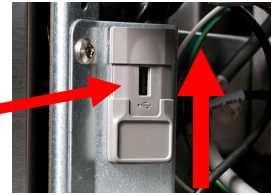

Figure 5
2. **INSERT USB.** The USB port is located inside the far-left cabinet, on the left-hand side. Slide or lift the cover up to reveal the USB port (see Figure 5). These may differ in appearance.